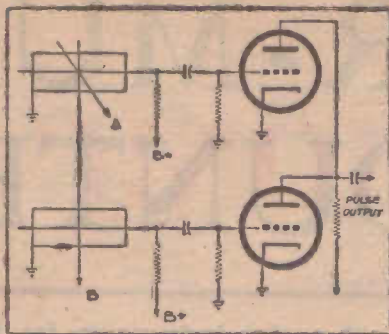
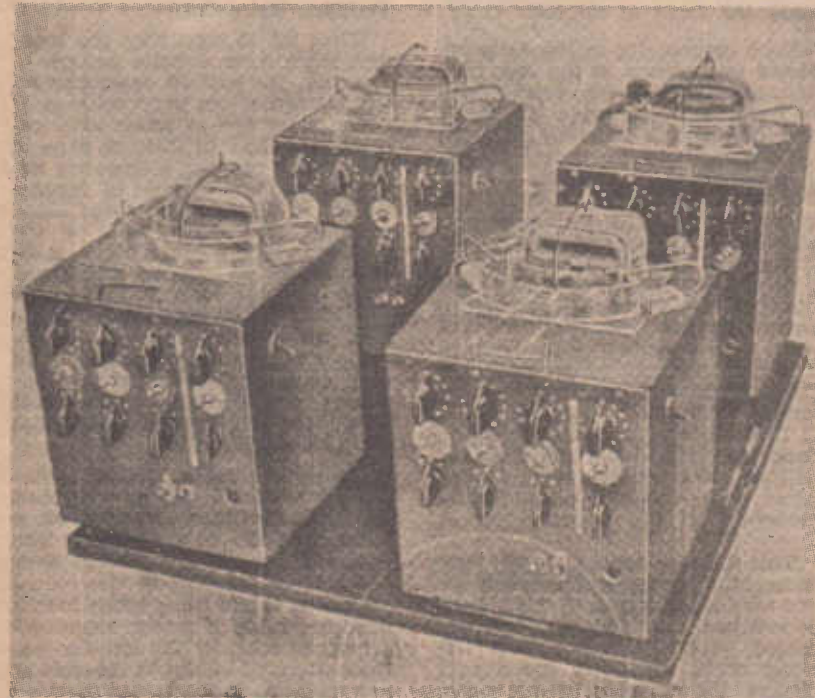
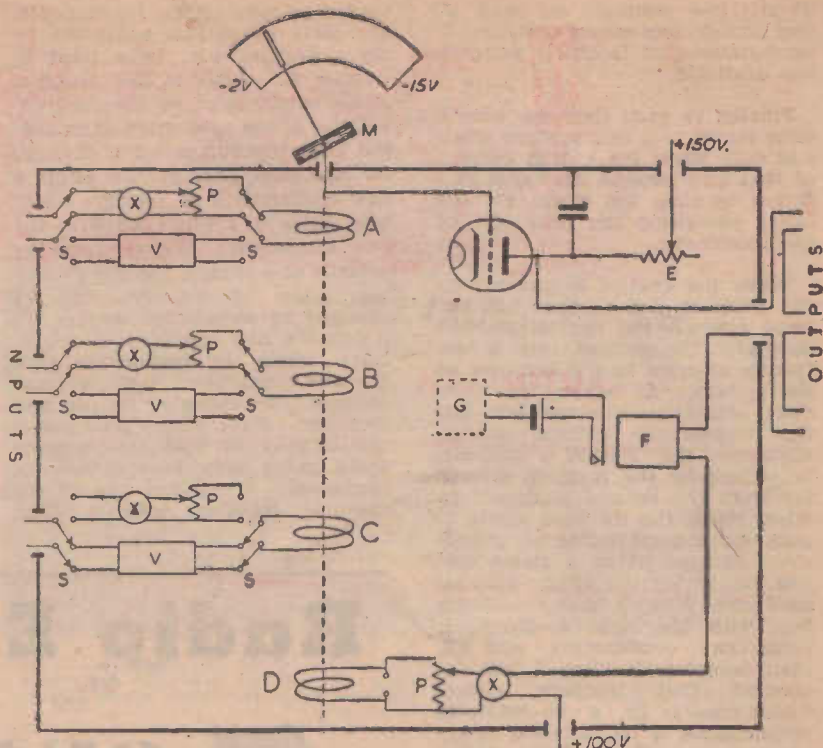

Fig. 2. Arrangement for coincidence counting.
Fig. 1. The Homeostat, with its four units, each one of which reacts on all the others.
Fig. 3. Diagram of one unit, the others being replicas. The inputs come from and the outputs go to the other three units.
A rather simple yet ingenious arrangement of counters enables the direction of travel of an ionising particle to be detected. The arrangement is called a "coincidence counter", and is illustrated in Fig. 2. It will be noted that two (or more) counters are arranged to intercept the ionising particles or rays. The counters are connected to the grids of individual vacuum tubes whose plates are connected to a common load resistor  $RL$ .
Fig. 2. Quadruple coil ABCD encircles magnet M which is suspended by the needle pivot. The suspending wire extends forward on its end into the water in the semi-circular plastic trough which has electrodes at each end. Potential for grid is taken from the pivot socket.
The homeostat consists of units, four of which are shown in Fig. 1. Each carries on top a suspended magnet, shown in Fig. 2 and the behavior of these four magnets provides the focus of interest.
Each magnet (M in Fig. 3) is affected by currents in the four coils around it, the currents coming partly from the other units (A, B, C) and partly as a self-feedback (D). (The apparently single coil of Fig. 2 is composed of the four coils of Fig. 3). In front of each magnet is a trough of water with electrodes at each end at -2v and -15v respectively. The magnet is suspended on a needle pivot by a wire sling which dips into the water and picks up a potential which depends at each moment on the position of the magnet. The potential goes to the grid of a triode and thus controls the d.c. output of the unit. (The resistor E is first adjusted so that when the magnet is central the unit has zero output). This output goes to the other units in series where it becomes one of their inputs.
These actions and reactions can be modified by various constant settings. Thus, the current from, say, unit 4 to unit 2, can be controlled as to its polarity of entry into the coil by X (Fig. 3). In addition, the potentiometer P decides what fraction of the input current actually goes through the coil. These controls can be hand set by the upper two rows on the front panels.